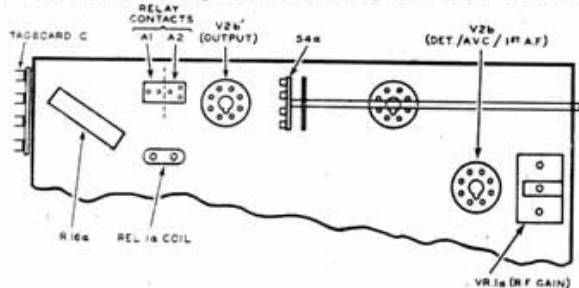

Fig. 2. Diagram of underside of i.f.-a.f. chassis.
(13) Under the power-unit chassis will be found a wide braided screen running from front to rear. A black wire passes through this from tag D3 to *Tel. Output* volume control (VR3a) and thence to chassis. Disconnect this wire from tag D3 and reconnect it to tag D10. D3 should be earthed to the nearest tagboard fixing screw.
(14) Remove the black wire between VR3a and chassis. Run a wire from the vacant loudspeaker tag through one of the chassis grommets and connect it to the tag on VR3a to which black wires are connected.
(15) Connect together the following pairs of tags: D8 to D9; C10 to C8; and C9 to C3.
(16) Disconnect the *Line* jack (J1a) from chassis (near VR3a), extend the wire, and connect it to tag D5.
(17) Disconnect and remove the wire running from tag C5 to a tag on the output transformer (T2a).
(18) A section of the underside of the i.f.-a.f. chassis is shown in Fig. 2. Remove the wire from the relay contacts A1 to the grid circuit of valve V2b. Connect the same relay contact to tag 3 of the valveholder V2b.
(19) Link the following pairs of tags: C5 to D5; C10 to D10; C11 to D11; and C12 to D12.